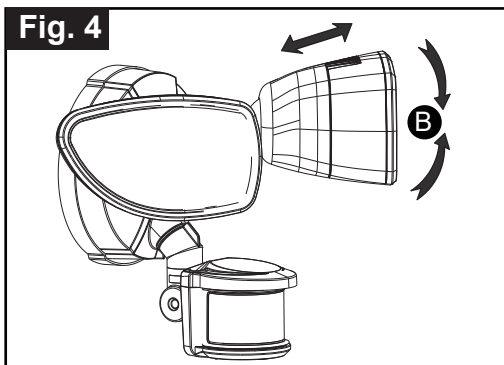

Fig. 4
1. Gently grasp the light heads (B) and tilt them up or down, left or right to adjust the light coverage area. Keep the light heads (B) at least 1" (25mm) away from the sensor. (See Fig. 4)
2. Keep the light heads (B) 30° below horizontal to avoid water damage and electrical shock.